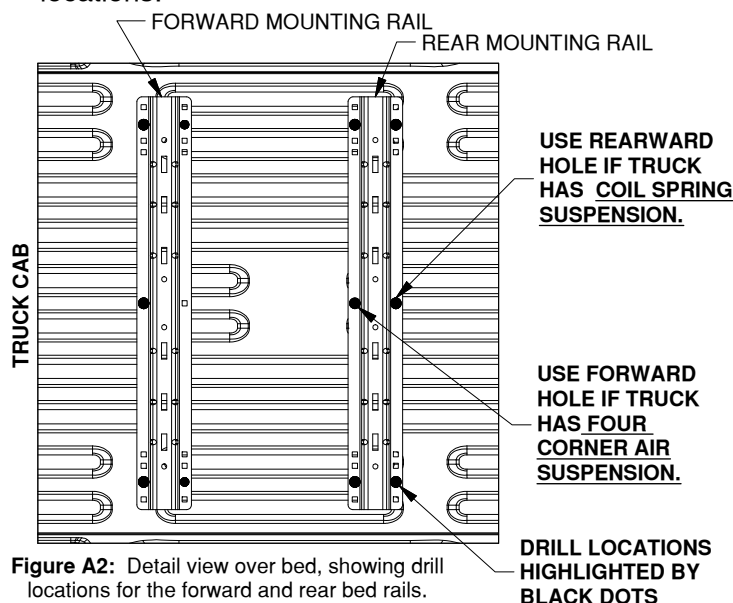

Figure A2: Detail view over bed, showing drill locations for the forward and rear bed rails.
NOTICE: The hole pattern used in the rear rail will be different depending on your suspension. Study Figure A2 carefully prior to marking your hole locations.
2. **Mark the hole locations.** While carefully ensuring the mounting rail does not move, use a center punch tool to mark the five drill locations on the rear rail that match your truck's suspension style, shown in Figure A2. (Forward rails will install on a later step.) It is critical that the five drill locations be marked exactly in the center of the square hole in the rail. Once all five rear rail locations are clearly marked, move the bed rail out of the way and drill each location with an 1/8" drill.
2. **Drill forward mounting pilot holes.** Using the holes in the forward mounting rail, mark the five drill locations. Refer to "DRILL REAR MOUNTING HOLES" section, Step 2, on Page 2. Notice that the hole locations may be slightly different than the rear rail, see Figure A2. It is critical that the five drill locations be marked exactly in the center of the square hole in the forward rail. Drill each of the marked locations with a 1/8" pilot hole.